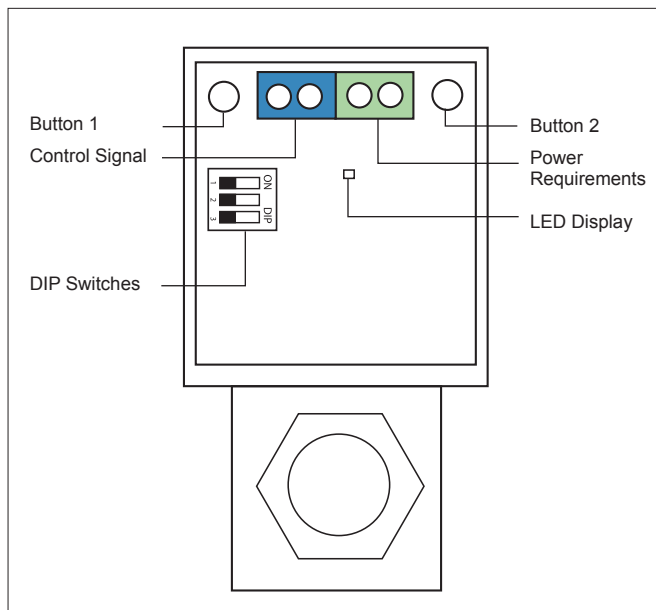

Figure 3: EXA Valve Control Signal and Power Requirements
A three (3) position DIP switch is located on the PCB (see figure 3). Change the signal type and offset by changing the position of DIP switches. (For DIP switch position and corresponding current/voltage ranges, see table below).